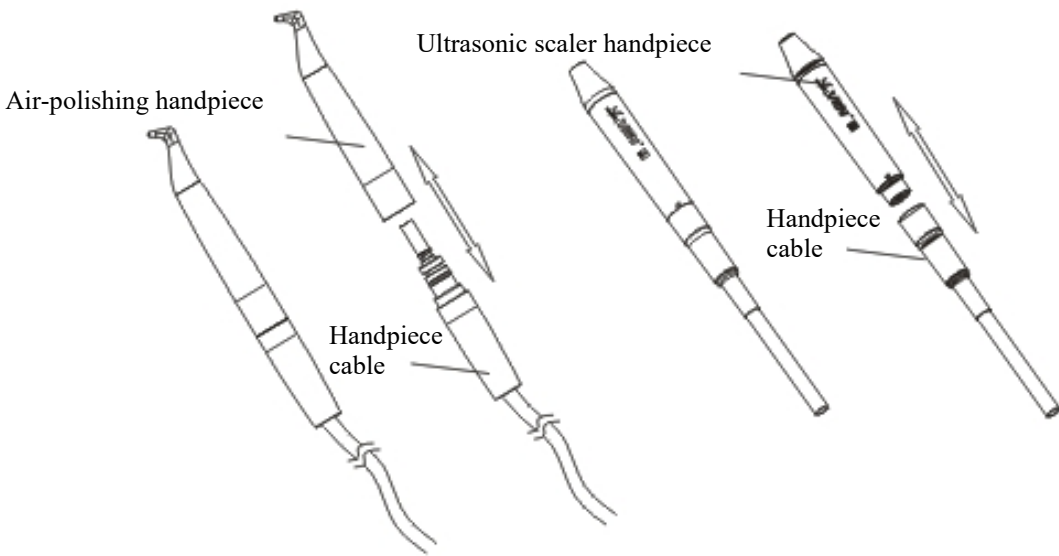

Figure 5
- (3) Insert the air polishing handpiece into the handpiece socket. (See fig.5)
- (4) Powder flow rate setting: Rotate the powder flow rate adjustment knob to control the powder consumption.
- (5) Water flow rate setting: Slide flow rate adjustment slider to adjust and select the appropriate water consumption.
- (6) Stepping on the foot switch to start treatment. 45°-60° of jet angle and 4-6mm of separation with teeth for the best treatment conditions.
- (7) After finishing treatment, touch power control slider, and it will clean the internal air circuit of air polishing system automatically for 5 seconds.
- (8) After self-cleaning, unscrew the nozzle (nozzle is single-use) and pull out the handpiece for cleaning and sterilization.